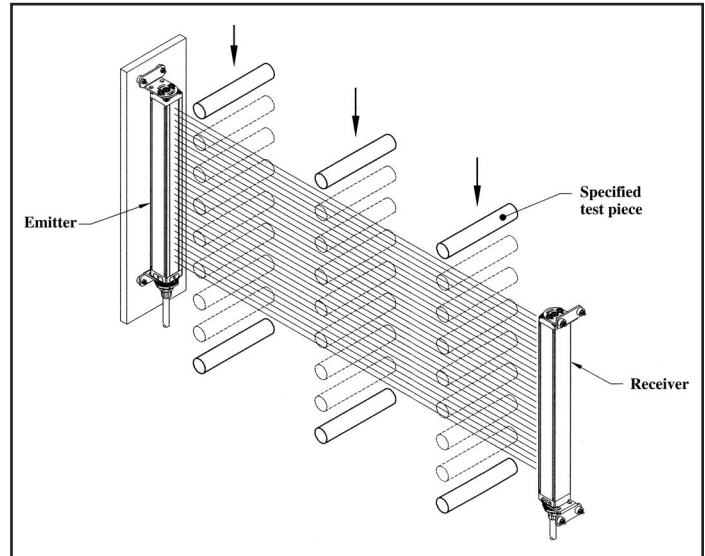

Figure 29. Use of Test Piece
- b) With the guarded machine at rest, pass the *specified test piece* (supplied with the control box) downward through the defined area at three points: close to the receiver column, close to the emitter column, and midway between the emitter and receiver columns (figure 29). In each case, the red indicator must come "on" and the green indicator must go "off" and remain "off" for as long as the test piece is within the defined area. If the green indicator comes "on" at any time when the test piece is within the defined area, check for reflective surfaces, and do not continue until the cause is discovered and the situation is resolved. NOTE: Latching output models require a latch reset after each pass of the test piece.
- a) Verify that the MINI-SCREEN System is in the RUN mode (green and yellow Status Indicator LEDs “on”). See Section 4.3 for RESET procedure. Refer to Figure 29.